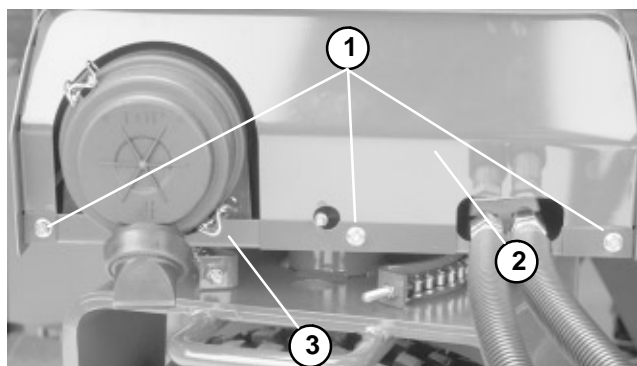

Figure 11
3. On the **SP 2020/3020** remove three hex flange head screws securing the hood to the front shield (Fig. 11). Remove four cap screws securing the dash panel to the hood (Fig. 12). Remove hood from the machine.
3. On the **SP 2020/3020**, position hood to the dash panel and front shield. Secure hood to front shield with three hex flange head screws (Fig. 11). Secure dash panel to hood with four cap screws (Fig. 12).
7. Position hood to the dash panel and front shield. Secure hood to front shield with three hex flange head screws (Fig. 11). Secure dash panel to hood with four cap screws (Fig. 12).